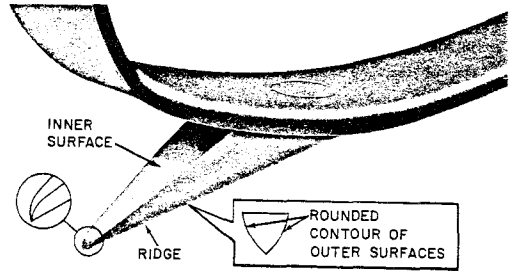

Fig. 11—Gaff Profile and Point
5.05 Figure 11 illustrates the surfaces, ridge, and point of a properly shaped gaff. **The ridge of the gaff is straight.** Note that the point of the gaff is rounded to meet the ridge.